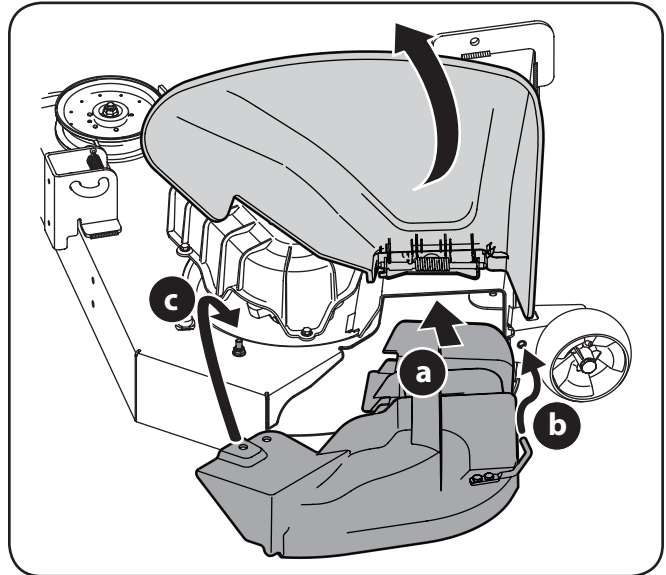

Figure 1-5
3. To install the mulch plug, pivot the discharge chute upward. Refer to Figure 1-5 (*fabricated decks*) or Figure 1-6 (*stamped decks*):